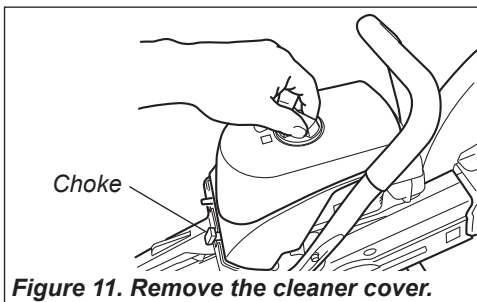

Figure 11. Remove the cleaner cover.
2. Unscrew the knob on the cleaner cover and remove the cleaner cover. See Figure 11.